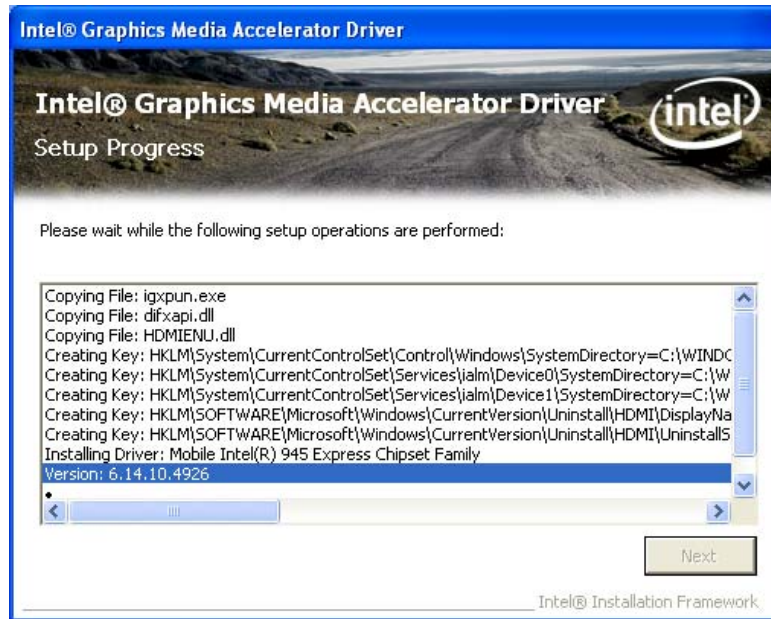

Figure 7-12: Graphics Driver Setup Operations
Step 14: **Setup Operations** are performed as shown in **Figure 7-12**.